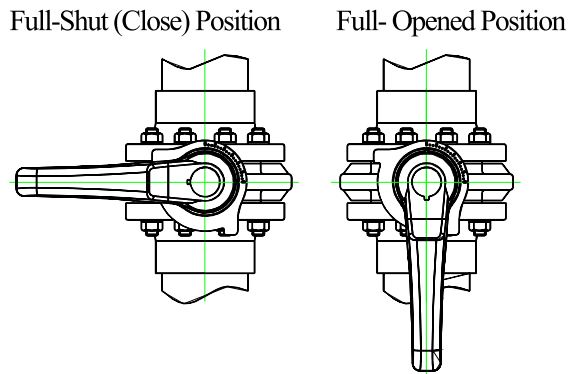

Fig. 6-1
2) In case of lever type (40-200 mm {1 1/2"-8"}), the direction of handle is same as the disc as shown in Fig. 6-1.